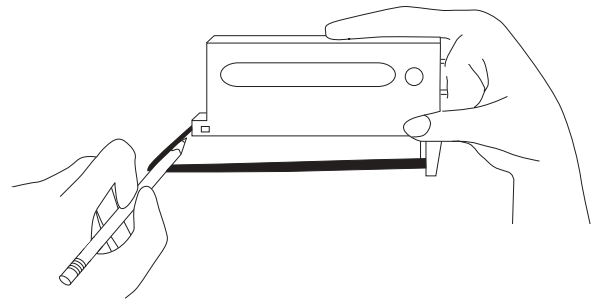

Figure 1. Use a pencil to pull extra ribbon from the cartridge before installing
2. Use a pencil to pull a few extra inches of ribbon out of the ribbon cartridge (see Figure 1).